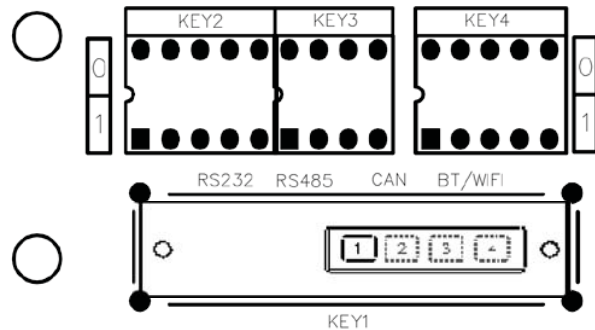

Figure No. 6
The configuration switches are located on the bottom right side of the enclosure behind an access panel. You may gain access to the switches by loosening the gland connectors for the AC power cord and communication interface cable, removing the six (6) screws securing the panel, and then lowering the access panel on the enclosure. The switches are shown in Figure No. 6. Once you have access to the switches, proceed with the setup instructions.